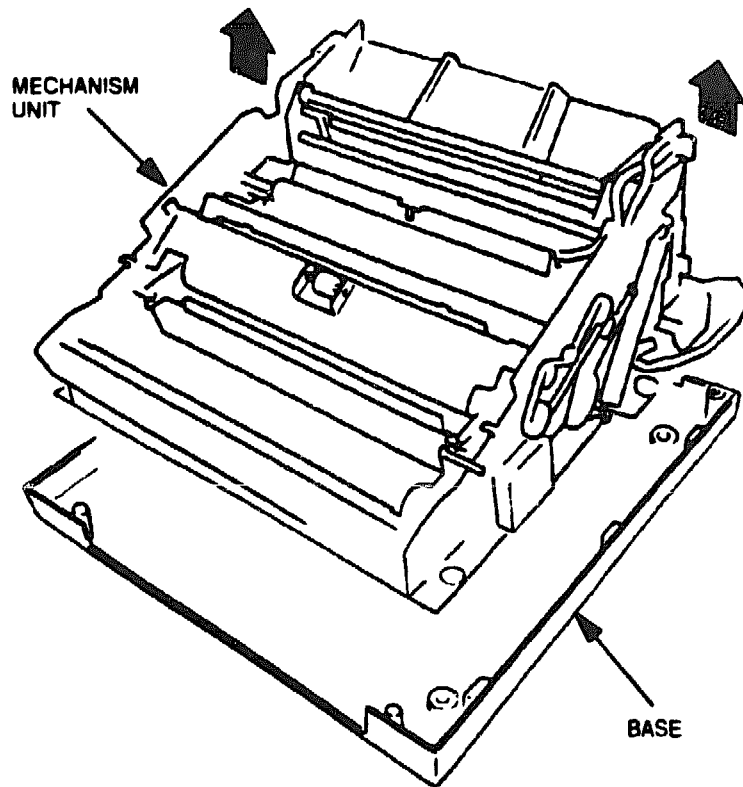

Figure 6-70 Mechanism Unit Removal
8. Close the upper unit. As shown in Figure 6-70, carefully lift the mechanism unit up and away from the printer base.